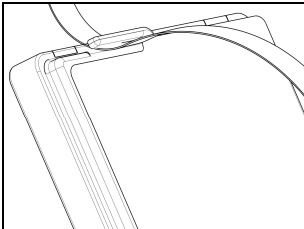

Fig. 39
- Secure the keypad flex in the special stop (Fig. 39) and position the e-box inside its housing in the cheek pad (Fig. 40).